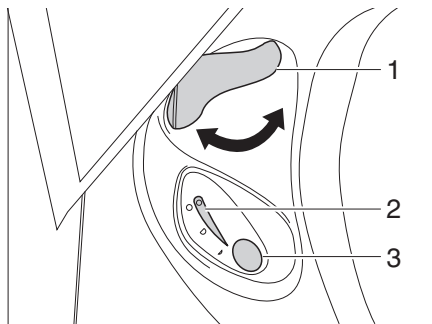

Fig. 382 Operating unit Thetford toilet
- Before flushing open the sliding trap of the Thetford toilet. To do this, turn the slide lever (Fig. 382,1) in an anticlockwise direction.
- For flushing, press the blue flush button (Fig. 382,3).
- After flushing close the sliding trap. To do this turn the slide lever (Fig. 382,1) in a clockwise direction.
The indicator lamp (Fig. 382,2) goes on whenever the Thetford cassette has to be emptied.
- Turn the slide lever (Fig. 382,1) in a clockwise direction. The sliding trap is closed. To empty, the sliding trap in the Thetford toilet **must** be closed.